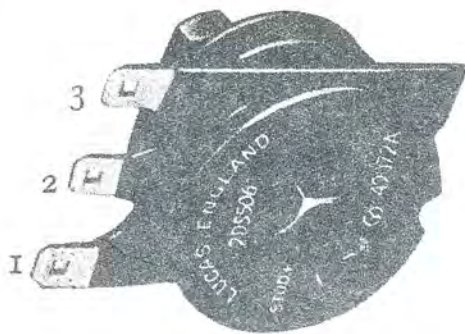
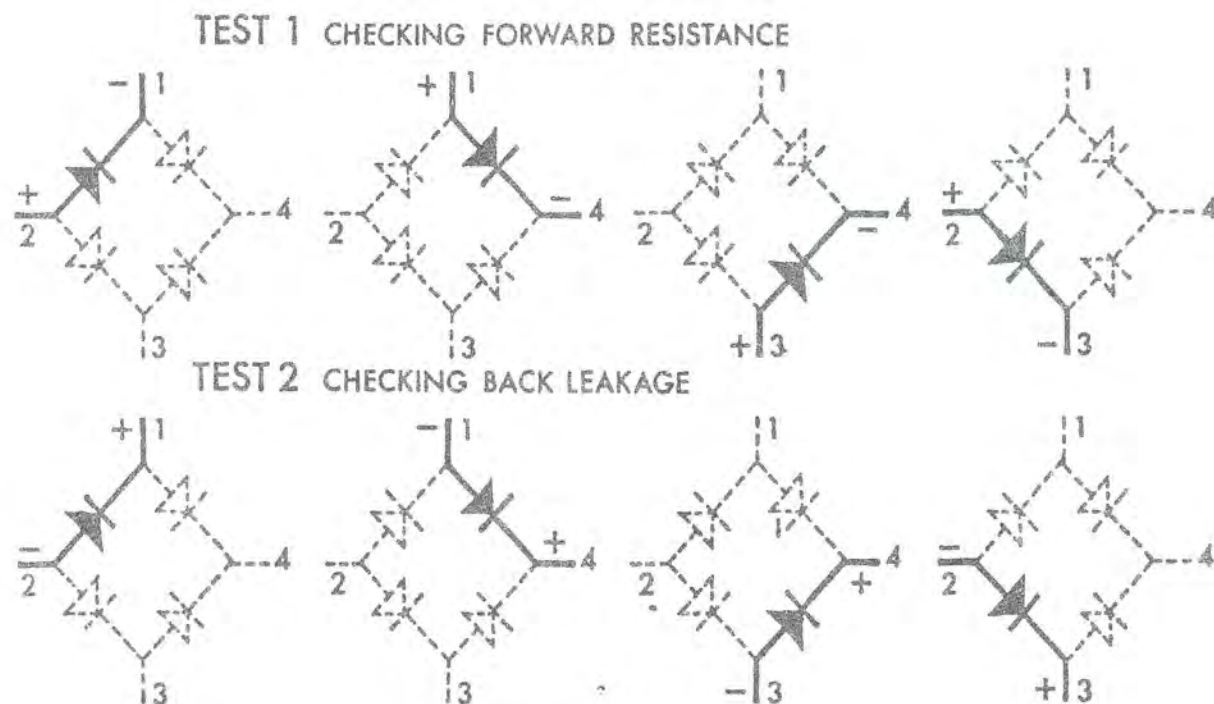

FIG. G.5. The rectifier showing terminal connections.
FIG. G.7. Rectifier test sequence.
In Fig. G.7, the rectifier terminal markings (1), (2) and (3) are as shown physically in Figs. G.5 and G.6, while terminal (4) represents the